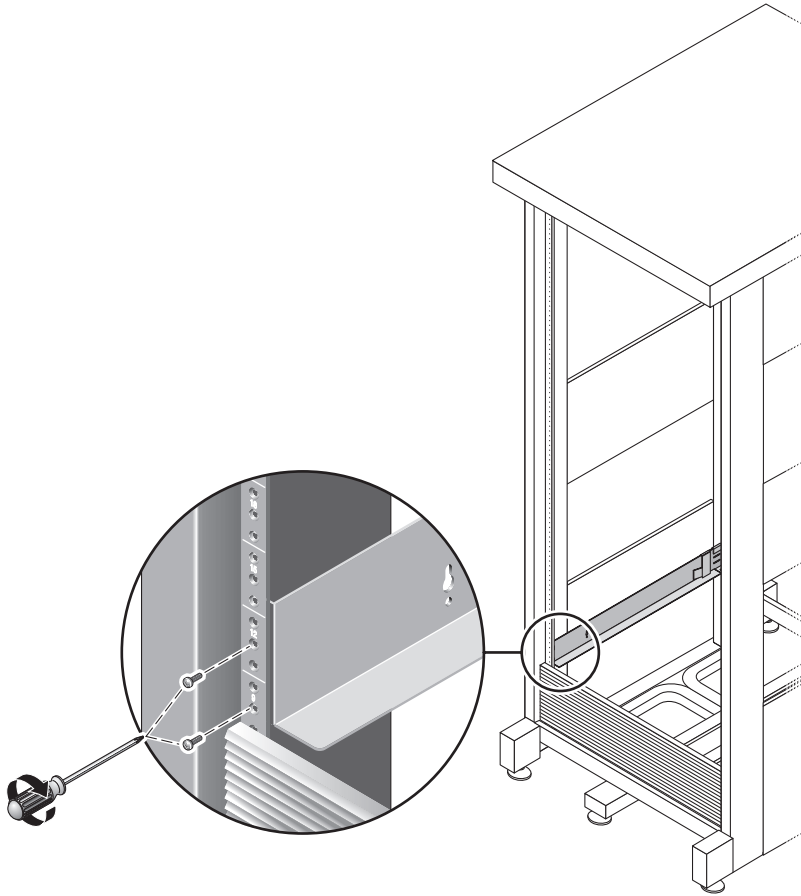

FIGURE 2-4 Securing the Left Rail to the Front of the Cabinet
- Using the No. 2 Phillips screwdriver, insert and tighten two 8-32 screws to secure the left rail to the front of the cabinet (FIGURE 2-4). Repeat for the right rail.